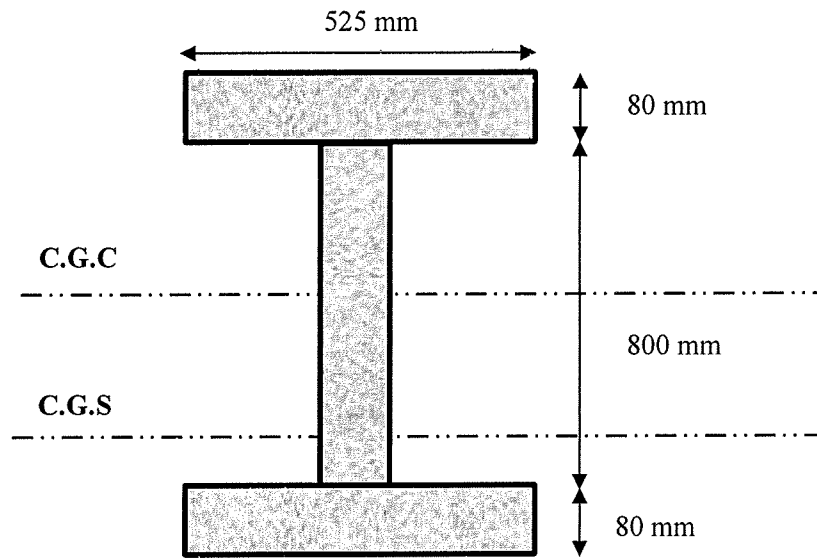

Figure 2: Preliminary section of an I-beam
c. Design a final version of the pre-tensioned prestressed concrete beam, based on the preliminary section shown in **Figure 2**. **The tensile stress of the beam need not to consider.** [Given, $f_b = -13.5$ MPa, $f_t = -12$ MPa, $f_0 = 1000$ MPa, $f_{se} = 800$ MPa, $M_G = 100$ kN-m, $M_T = 520$ kN-m, $h = 700$ mm, $F = 800$ kN]